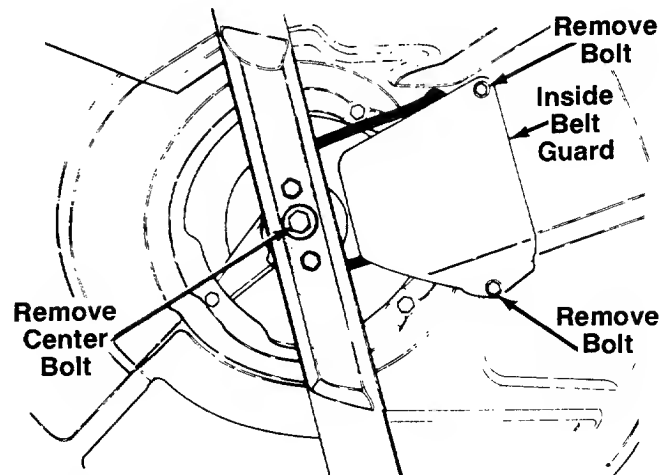

FIGURE 19.
5. Remove the center bolt which secures the blade to the crankshaft. See figure 19. Remove the blade, blade adapter and pulley half. Remove the belt.
6. Remove the inside belt guard by removing two self-tapping screws. A 3/8" wrench is required. See figure 19.
7. Remove the belt from between the idler pulley and the belt guard on the idler pulley bracket. Refer to figure 19.